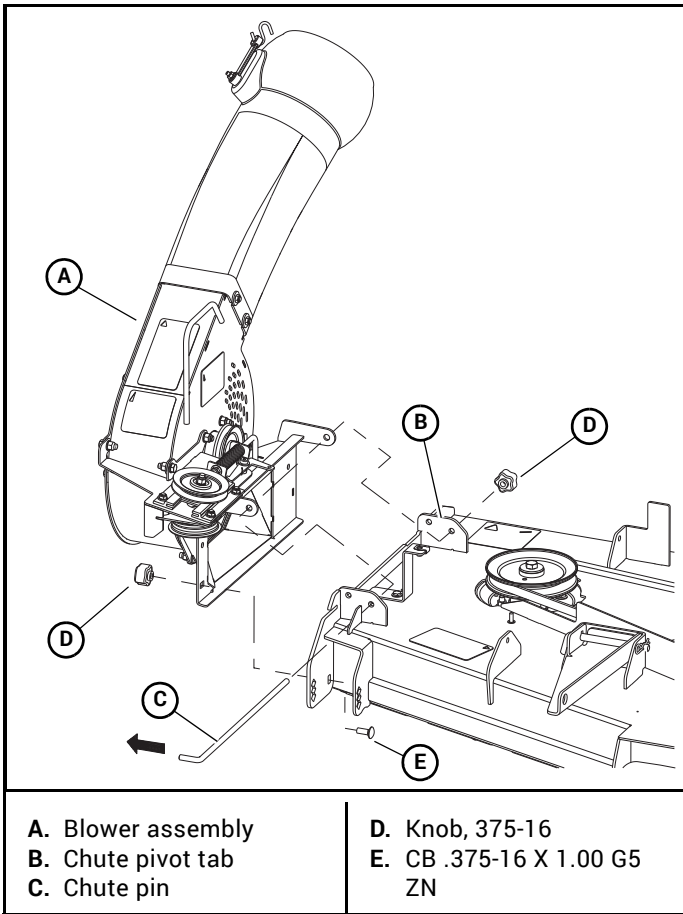

Figure 3-23
31. Attach the blower assembly to the deck. Figure 3-23
**IMPORTANT:** Make sure the head of the chute pin is pointing towards the blower unit. Figure 3-23